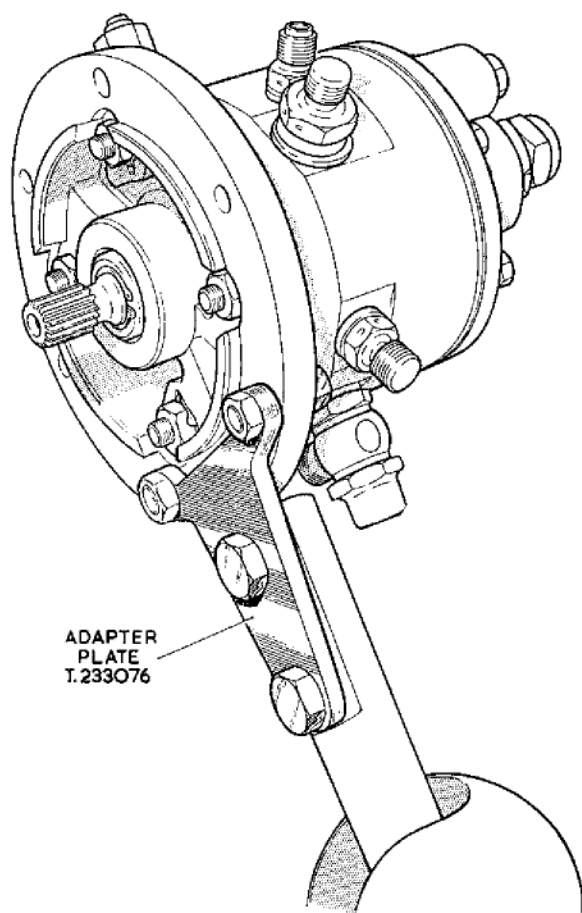

Fig. 2. Dismantling and assembling fixture
11. Mount the unit on the hydraclamp adapter T.233076 (fig. 2), remove the tabwashers and nuts at the driving end and withdraw the body and gasket from the rotor housing.